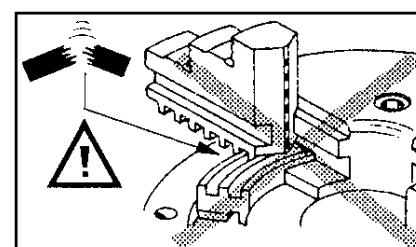

Fig 10
**Jaw teeth and scroll must always be fully engaged. Otherwise chuck jaws may break and fly off in rotation (Fig 10).**